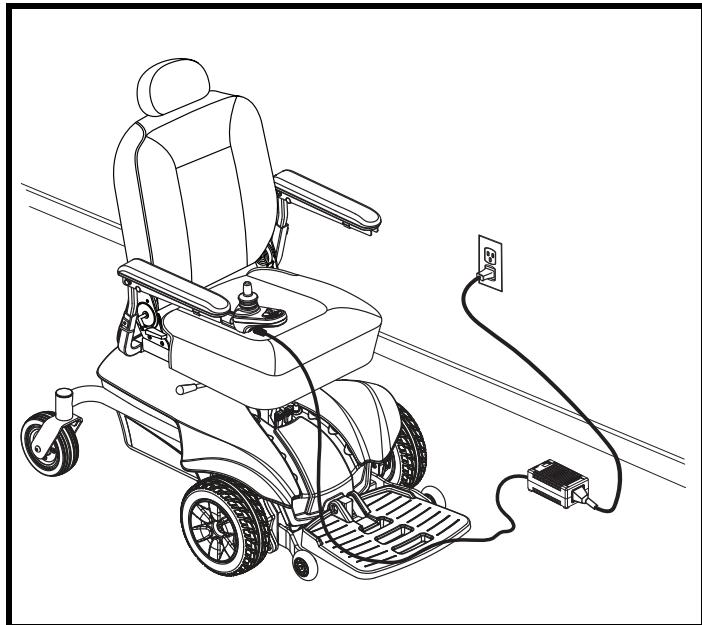

Figure 19. Battery Charging
1. Position the front of your power chair next to a standard electrical outlet. See **figure 19**.
3. Plug the off-board charger into the off-board charger/programming socket on the controller. See **figure 19**.